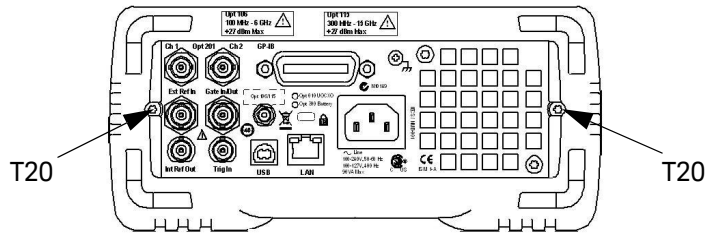

Figure 3-2 Rear Bezel And Cover Removal
- 3 To remove the rear bezel and cover, loosen the captive screws on the sides as shown in **Figure 3-2**, using the TORX 20 screwdriver.